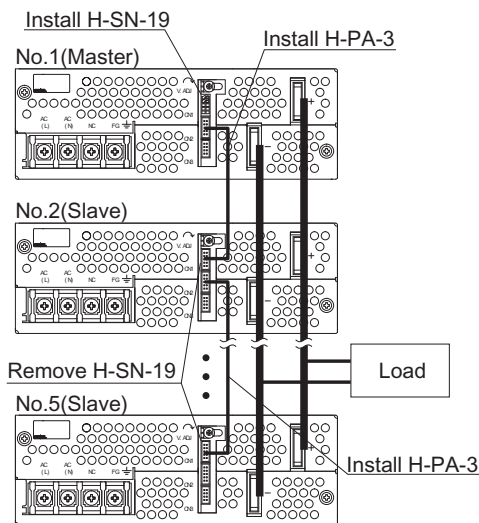

Fig.4.3 Example of parallel connection
■You can use the power supplies in parallel operation by connecting units as shown in Fig.4.3.